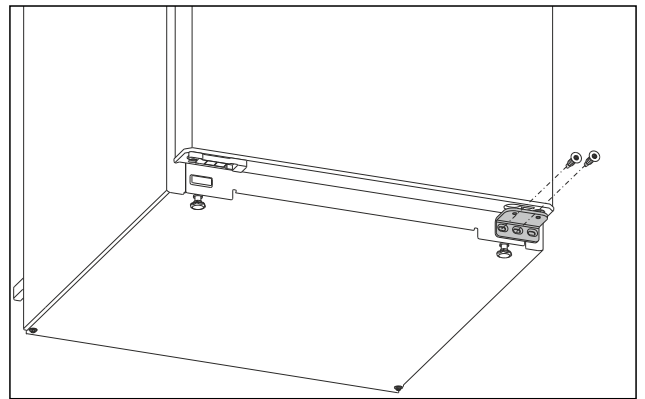

Fig. 6
- ▶ Unscrew the middle screw on the lower swap bearing block with a Torx 20 screwdriver. Fig. 6 ()
- ▶ Unscrew the inner screw on the lower swap bearing block with a Torx 20 screwdriver. Fig. 6 ()